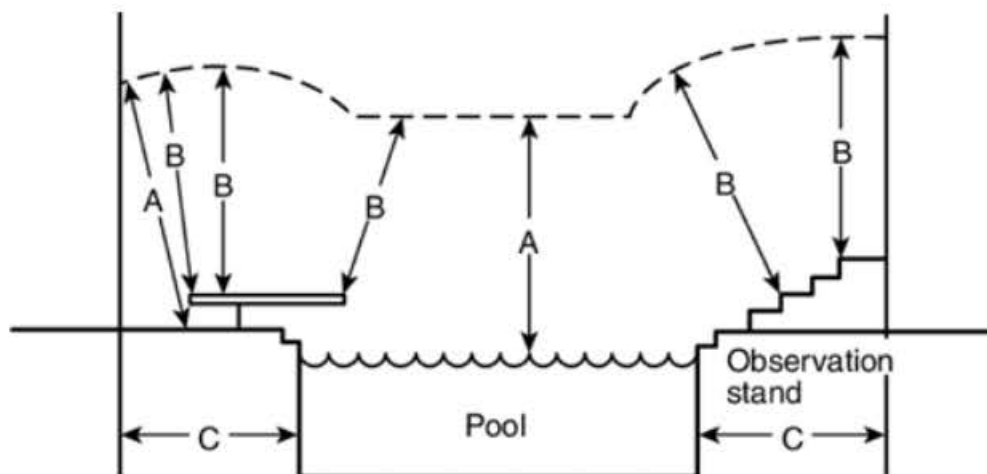

FIGURE 680.9(A) Clearances from Pool Structures.
With respect to service-drop conductors, overhead service conductors, and open overhead wiring, swimming pool and similar installations shall comply with the minimum clearances given in Table 680.9(A) and illustrated in Figure 680.9(A).